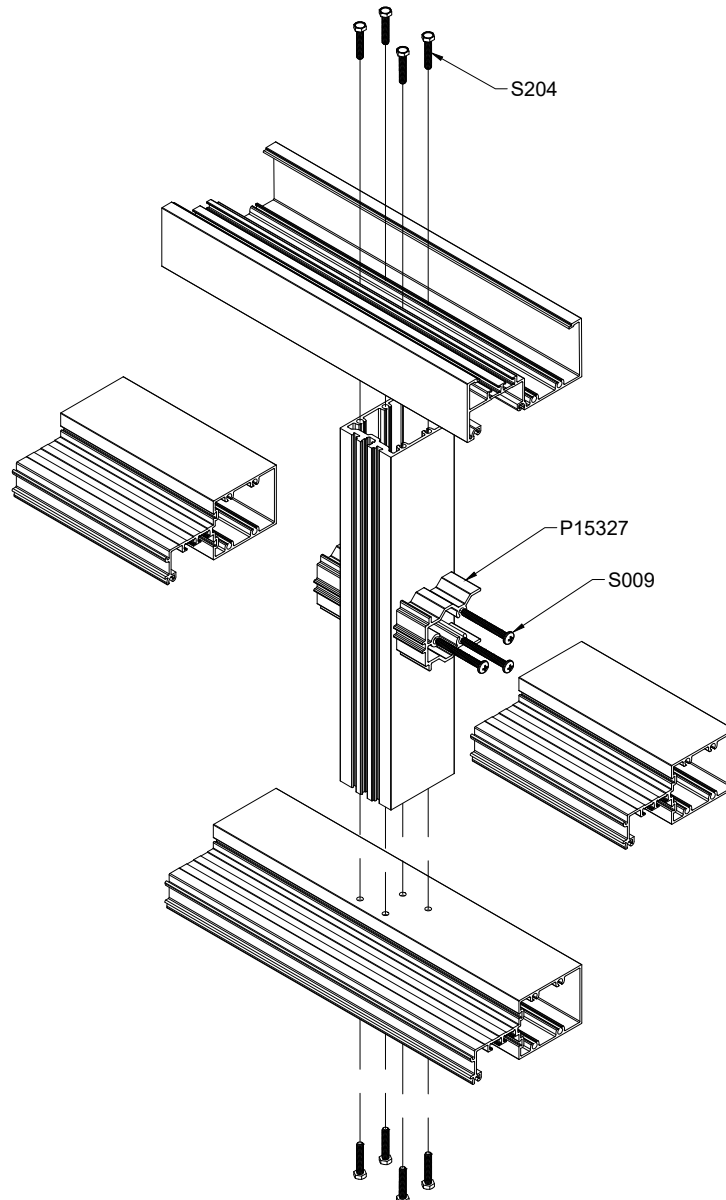

FIG. 1
- F. Secure intermediate horizontal E/T/TU15323 with (1) S191 #10 x $\frac{1}{2}$ " truss head screw. See **FIG. 1**.